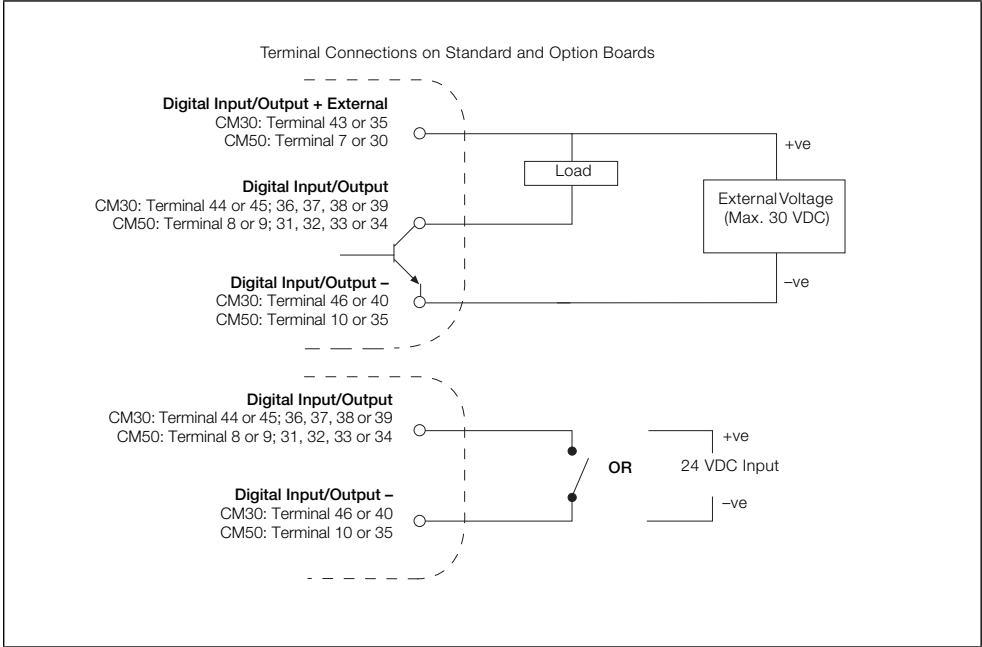

Fig. 4.18 Digital Input and Open Collector Digital Output Connections – CM30 and CM50 Controllers
**Note.** Digital input and open collector digital output connections for CM30 and CM50 controllers are shown in Fig. 4.18 – see page 102 for Digital Input / Output type options.